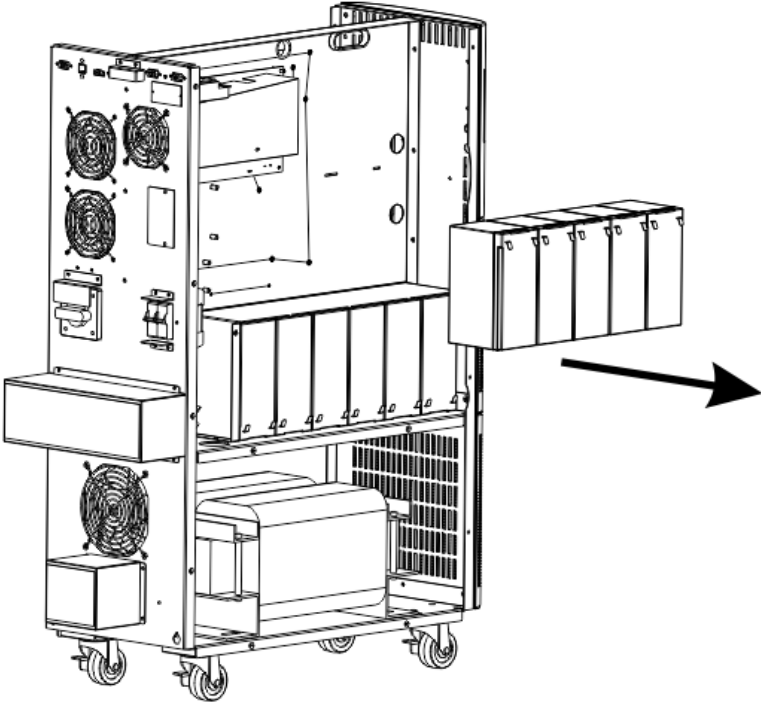

FIG. 6
16. Remove the battery retaining bracket from the second row of batteries and set aside (FIG. 6).
17. Remove the batteries from the second row and set aside (FIG. 6).